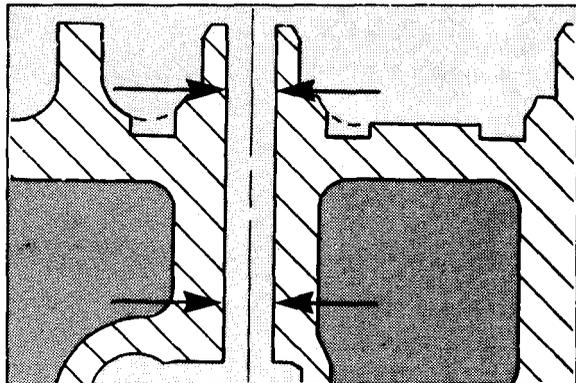

Figure 6-8
7. Measure valve guide bore. Minimum diameter is 0.3157 in. (8.019 mm) and maximum diameter is 0.3185 in. (8.090 mm) (Figure 6-8).